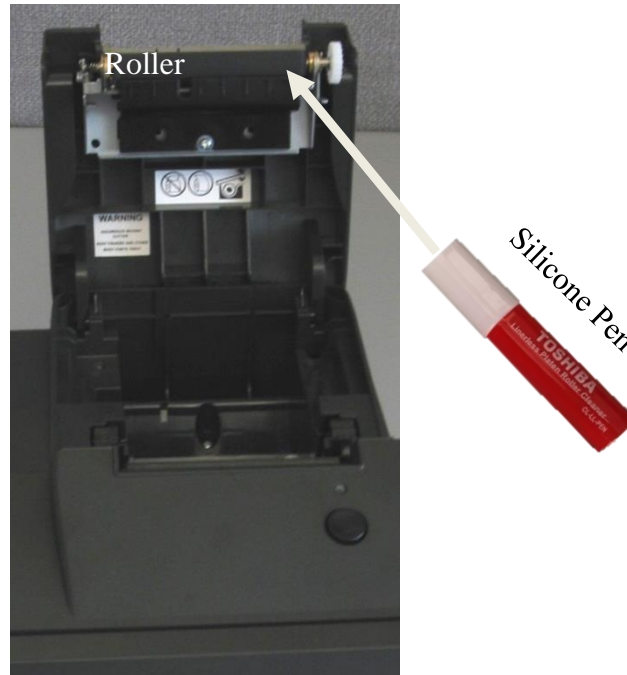

Figure 6 – Cleaning the receipt roller
2. Use the Silicone cleaning pen to clean the roller (**Figure 6**).